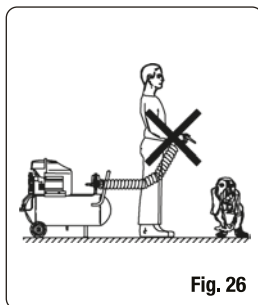

Fig. 26
- Never direct the air stream at people or animals (fig. 26).